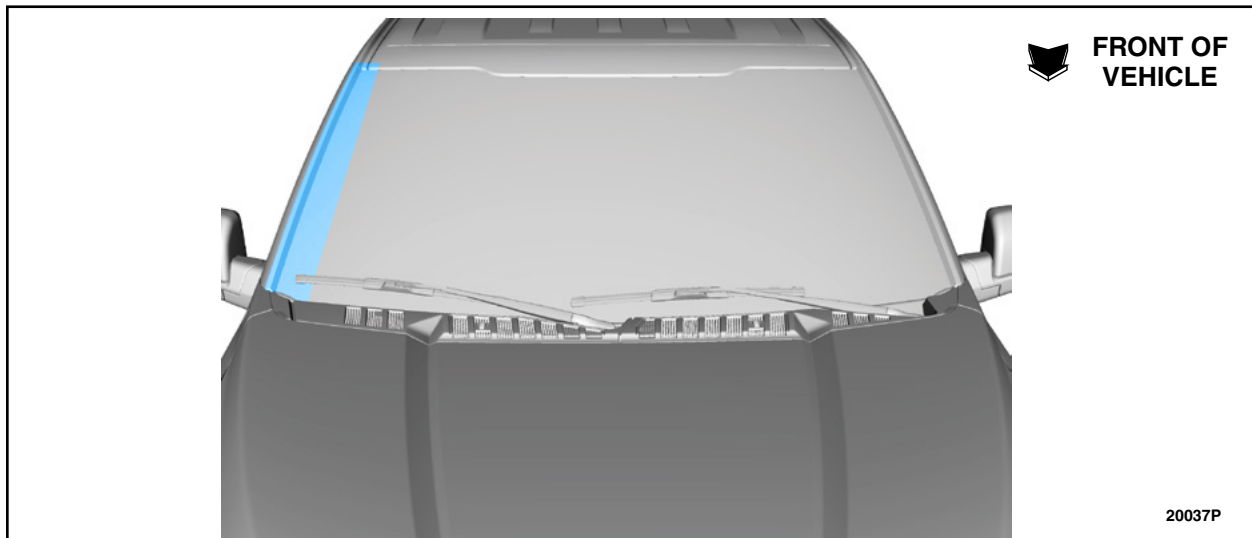

FIGURE 14
25. Using a garden hose, spray down the RH side of the windshield, then immediately inspect the A-pillar area within the vehicle for signs of moisture and/or leakage. See Figure 14.